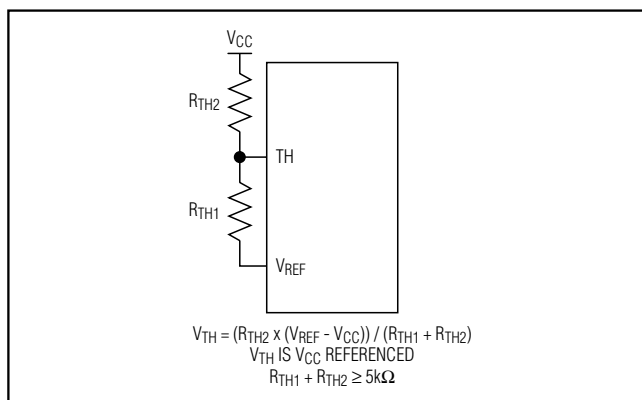
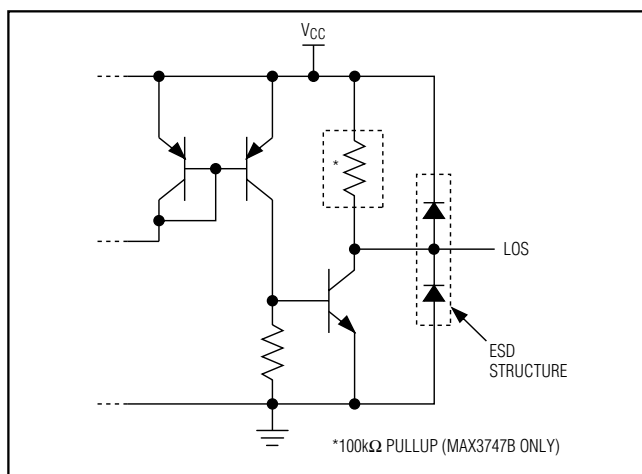

Figure 5. MAX3747A/MAX3747B LOS Threshold Circuit
Figure 6. MAX3747A/MAX3747B LOS Output Circuit
**Note 10:**  $V_{TH}$  is the voltage at pin 5 referenced to  $V_{CC}$  (see Figure 5).
The MAX3747A/MAX3747B are equipped with LOS circuitry that indicates when the input signal is below a programmable threshold, set by a voltage on the TH pin (see the *Typical Operating Characteristics*). The voltage on the TH pin is set by two resistors, one connecting from the TH pin to VCC and the other connecting from TH to VREF (Figure 5). An RMS power detector compares the input signal amplitude with this threshold and feeds the signal-detect information to the LOS output, which is open collector. To prevent LOS chatter in the region of the programmed threshold, approximately 2dB of hysteresis is built into the LOS assert/deassert function. Once asserted, LOS is not deasserted until the input amplitude rises to the required level. Figure 6 shows the LOS output circuit.
Program the LOS assert threshold according to Figure 5. The combination of RTH1 and RTH2 should be greater than or equal to 5kΩ, see the Assert/Deassert vs. VTH graph in the *Typical Operating Characteristics*.